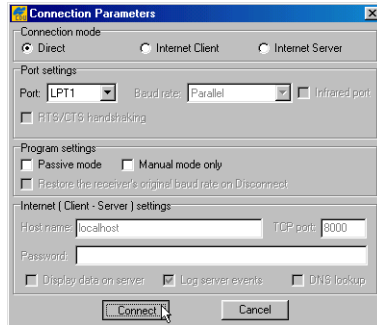

Figure 1-2. Parallel Port Connection Parameters
4. Click **Connect** (Figure 1-2 on page 1-10).